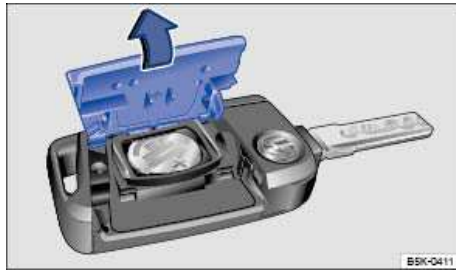

Fig. 19 Remote control vehicle key: Open battery compartment cover.
The battery is on the back of the remote control vehicle key under a cover ⇒ fig. 19.
- Position the cover as shown ⇒ fig. 19 and press it down (opposite direction of the arrow) until you hear it click into place.